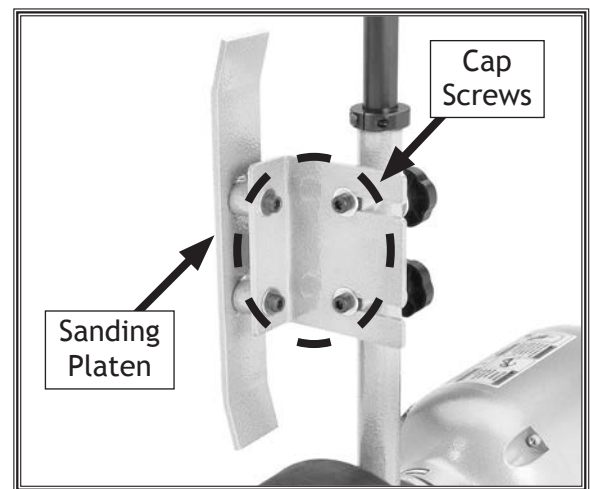

Figure 19. Sanding platen adjustment (belt removed for clarity).
3. Adjust the platen by loosening both cap screws securing platen to vertical rod (see **Figure 19**). Center platen behind the belt, and re-tighten cap screws.